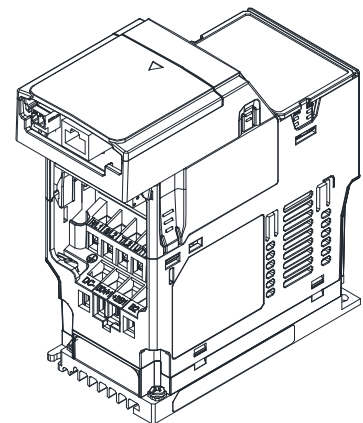

Figure 8-19
9. Assembly is completed, as shown in Figure 8-19.